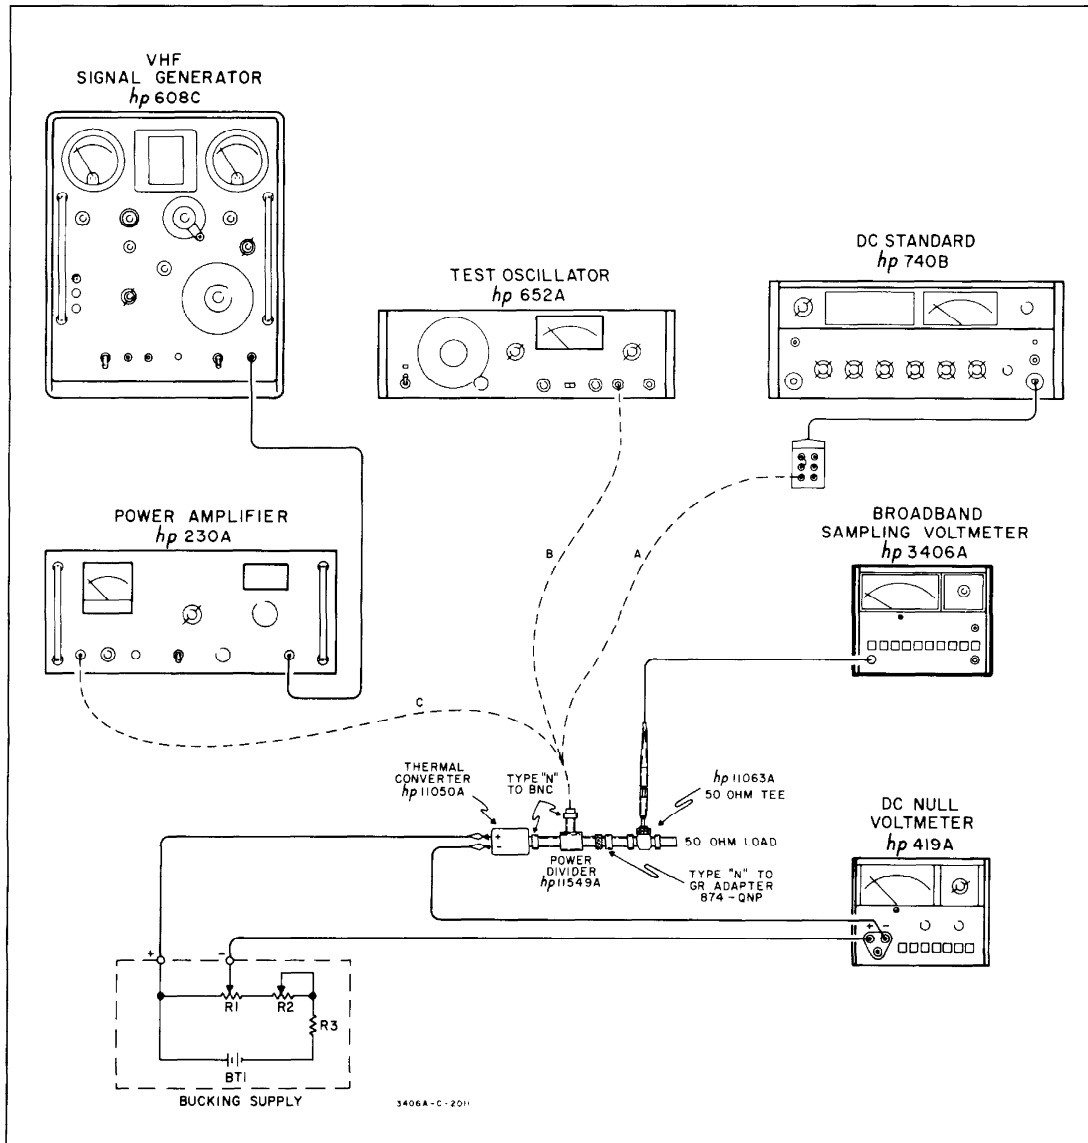

Figure 5-2. Accuracy and Range-to-Range Tracking Test Setup.
- e. Connect the equipment as shown in Figure 5-2, using the dc standard (A) to supply the input to the power divider.
a. Connect the test setup as shown in Figure 5-2, using the VHF Signal Generator (C) as the signal source.